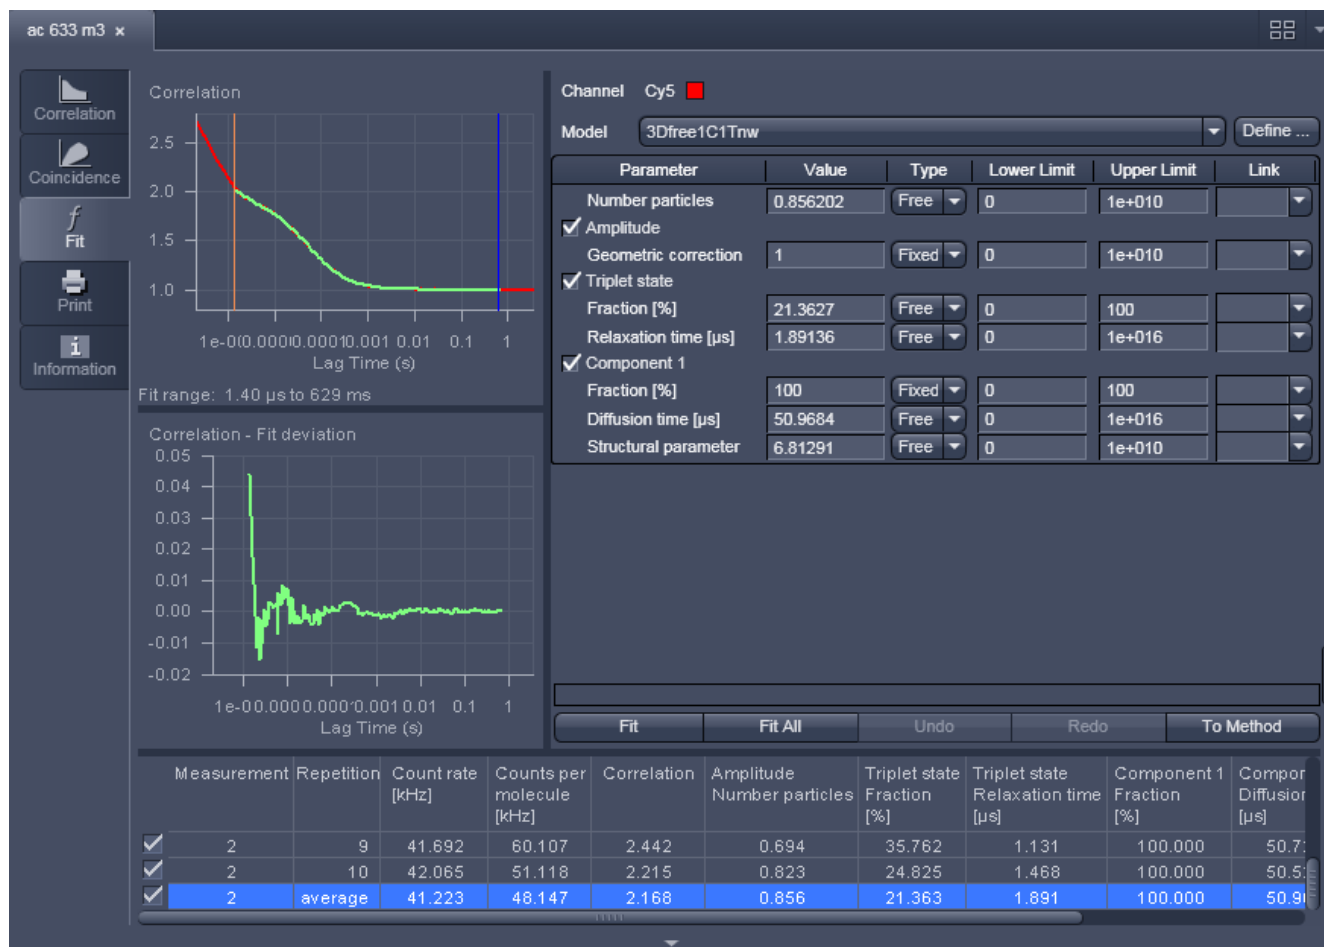

Fig. 375 Fit diagram panel for correlation analysis
- Click on the **Fit** tab to activate the **Fit** display mode (Fig. 375).
For fitting to a correlation model the upper graph (Fig. 375) shows the **Correlation $G(\tau)$ Fit diagram** (correlation plotted versus the correlation time) with the overlaid fit graph. It also displays the fit range defined by the red (start value) and the blue (end value) bars. The lower **Fit deviation** curve depicts the fit residuals. If an experiment is loaded for which no fit has been conducted yet, only the measured **Correlation $G(\tau)$** curve is shown and no overlaid fit curve. **The Fit deviation** diagram will be empty.